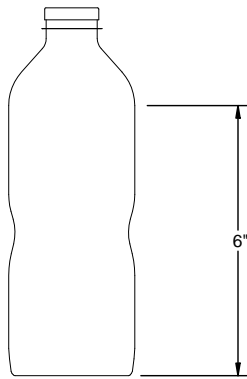

FIGURE 1
4. CUT THE EMPTY WATER BOTTLE 6" FROM THE BOTTOM. THEN CUT THE SIDE OF BOTTLE FROM THE OPEN FACE 4" IN DEPTH. SEE FIGURES 1 AND 2 AT LEFT.